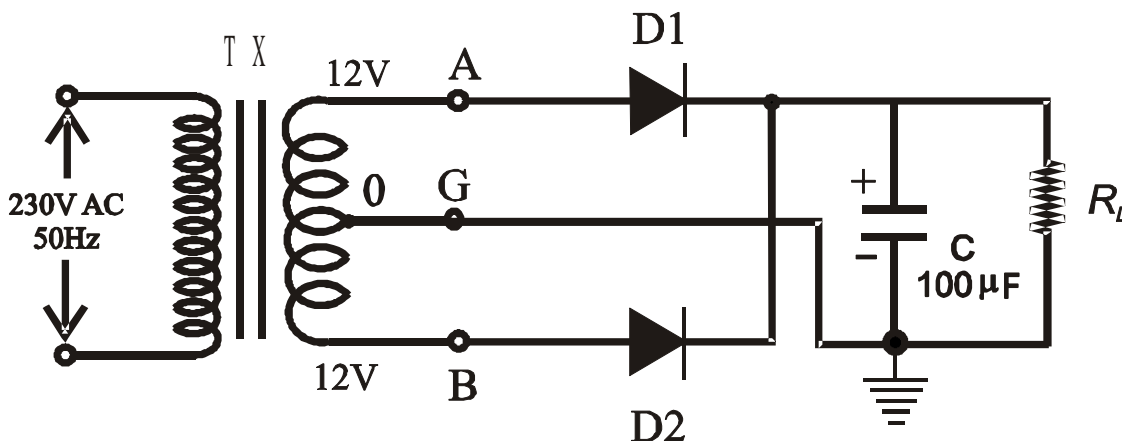

Fig: 3.1 :-Power Supply Using a center tapped Transformer and Full - Wave Rectifier
1. Set up the circuit as shown in Fig. 3.1 without the capacitor C . The transformer TX has rating of 230 V to 12-0-12 V, 1 A. Take $R_L = 1$ k Ω . Connect transformer primary to the mains and switch on the mains. Display the secondary voltages V_{AG} and V_{BG} (V_{AG} to Ch-1, V_{BG} to Ch-2) on the DSO. Make sure that both the “Probe Grounds” are connected to the circuit ground. Sketch the waveforms overlapping, with the same time and Amplitude axes. They should be 180 degree out of phase.